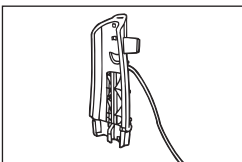

Fig.3/1
2. Insert three (3) nuts into the recesses at the back of base. While holding the nuts in place insert the screws through the front of the mid-section and tighten (Fig.3/2).